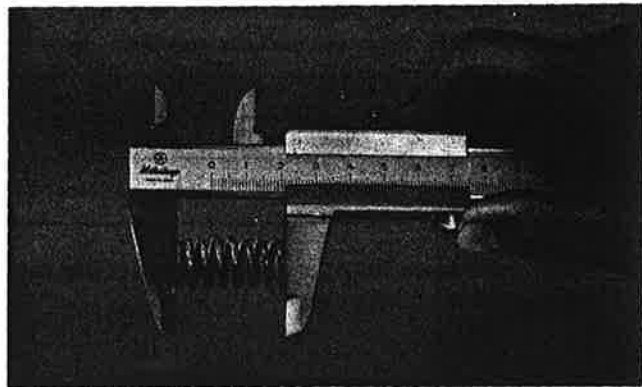

Fig. 3-3-30
9. Measure each clutch spring. If beyond tolerance, replace. (Fig. 3-3-30)